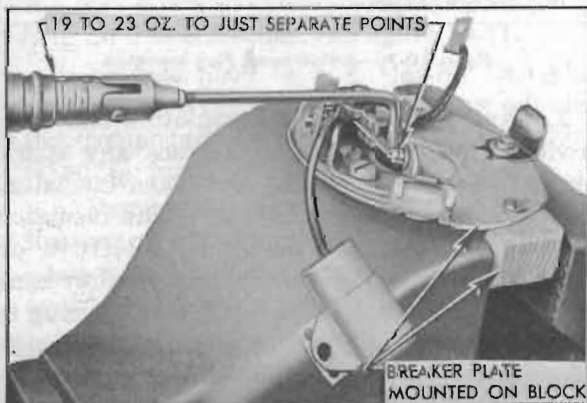

Figure 10-68—Checking Breaker Arm Spring Tension
5. Use a new spare breaker plate to temporarily mount parts so that contact point alignment and breaker arm spring tension can be adjusted. NOTE: A 1948 model breaker plate attached to a wood block makes a convenient fixture for these operations. See figure 10-68.
7. Attach hook of spring scale to breaker arm at side of contact point and check the tension required to just separate the points, with pull exerted at an angle of 90° with the point surface. See figure 10-68. Tension must be 19 to 23 ounces.